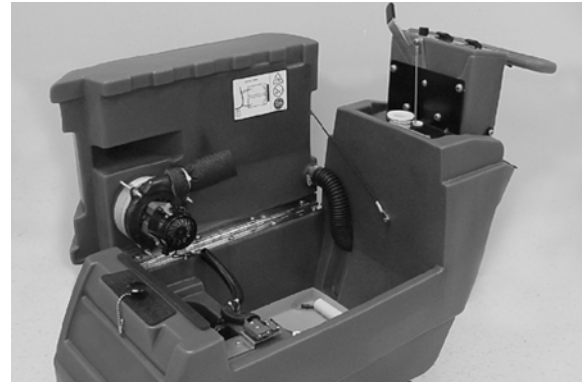

FIG. 1
1. Turn all switches to the off (O) position.
2. Carefully hinge open recovery tank to access battery compartment. Remove loose battery cable and PVC spacer from compartment (Figure 1).